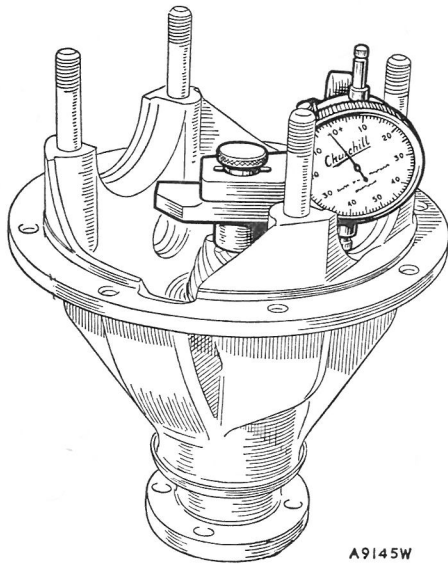

Fig. H.9
- (4) Position the pinion in the gear carrier without the shims, bearing spacer, and oil seal.
- (5) Fit the inner ring of the front bearing and the universal joint driving flange and tighten the nut gradually until a bearing preload of 10 to 12 lb. in. (.12 to .14 kg. m.) is obtained.
- (6) Remove the keep disc from the base of the magnet. Adjust the dial indicator to zero on the machined step 'B' of the setting block.
- (7) Clean the pinion head and place the magnet and dial indicator in position (Fig. H.9). Move the indicator arm until the foot of the gauge rests on the centre of the differential bearing bore at one side and tighten the knurled locking screw. Obtain the maximum depth reading and note any variation from the zero setting. Repeat the check in the opposite bearing bore. Add the two variations together and divide by two to obtain a mean reading.
- (8) Take into consideration any variation in pinion head thickness. This will be shown as an unbracketed figure etched on the pinion head and will always be minus (-). If no unbracketed figure is shown the pinion head is of nominal thickness. Using the mean clock gauge reading obtained and the unbracketed pinion head figure (if any), the following calculation can be made: